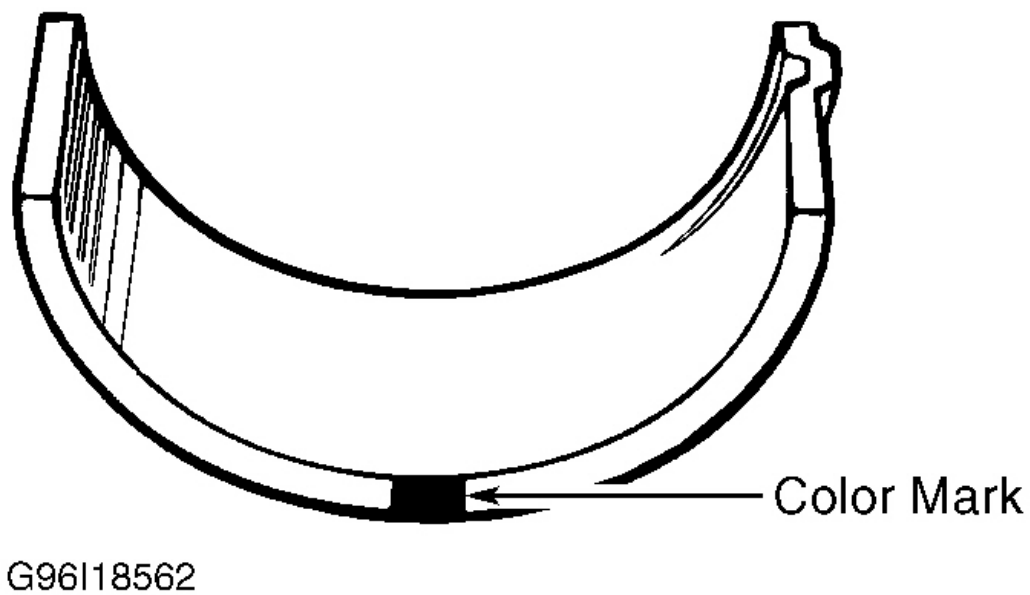
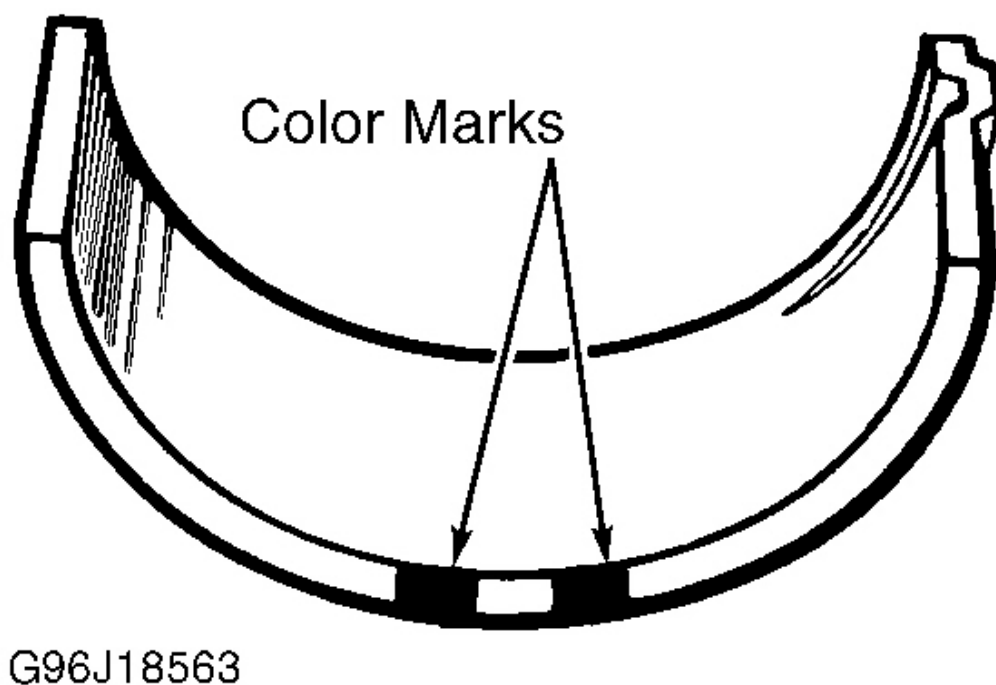

Fig. 15: Identifying Main Bearing Color Codes (Standard Bearing)
Fig. 16: Identifying Main Bearing Color Codes (Undersize Bearing)
4. Standard main bearings are color-coded. See **Fig. 15** and **Fig. 16** . Upper half of bearing has an oil groove. An arrow mark and number are embossed on each main bearing cap.
9. The letters stamped on cylinder block mating surface, reading left to right, indicate cap bore diameters of bearing caps No. 1, 2, 3, 4 and 5, respectively. Five standard main bearing sizes are available. Bearing thickness is determined by color code. See **Fig. 15** and **Fig. 16** . See **COLOR CODE FOR STANDARD BEARINGS** table.
1. Bearings are available in .010" (.25 mm) undersize. Undersize bearing thickness is determined by 2 color marks. See **Fig. 15** and **Fig. 16** . See **COLOR CODE FOR UNDERSIZE BEARINGS** table.